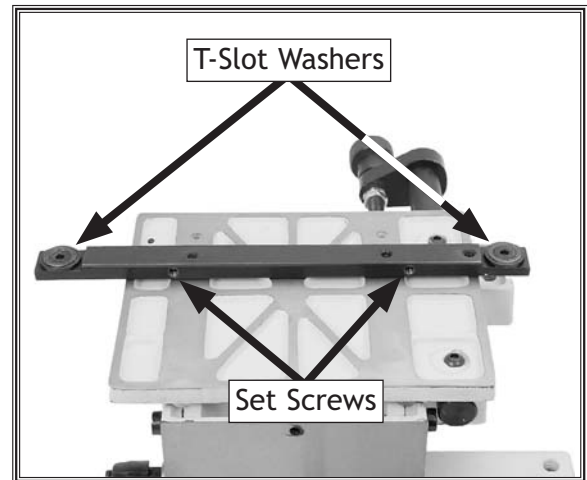

Figure 11. Guide bar and T-slot washers.
4. Remove the jig from the table saw and turn it upside down, as shown in **Figure 11**.
5. Evenly adjust the set screws shown in **Figure 11** the same amount so that they protrude from the guide bar enough to take up the side-to-side play experienced in **Step 3**.